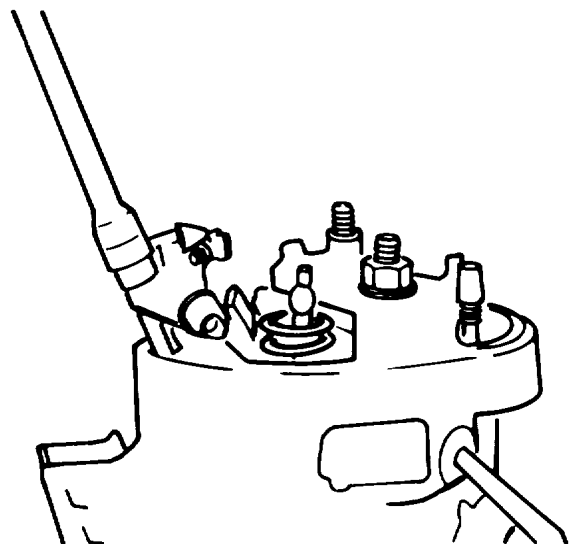

Figure A-7. Fuel Injector
h. Fuel Injector. Using a 10mm socket, remove the tow hex head screws and their lockwashers from the injector clamp. Lift off the injector clamp and **carefully** pull out the fuel injector assembly. Note that there is an asbestos washer between the injector and cylinder head which must also be removed through the injector opening. (Figure A-7)